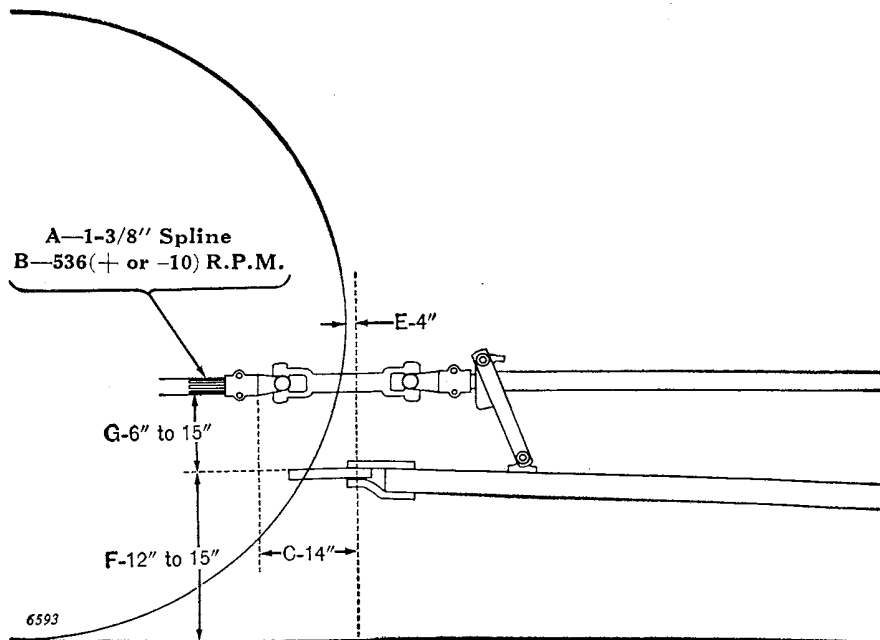

Figure 14
- A. **1-3/8" S.A.E. Standard 6-B Spline Take-Off Shaft on Tractor.** (See Figure 14.)
- B. **536 R.P.M. (Plus or minus 10) Take-Off Shaft Speed.** (See Figure 14.)
- C. **14" horizontal distance between hitch point and end of splined take-off shaft.** (See Figure 14.)
- E. **Not less than 4" horizontal distance between hitch point and rearmost point on wheel.** (See Figure 14.)
- F. **12" to 15" vertical distance between ground line and top of drawbar at point of hitch (15" is preferred).** (See Figure 14.)
- G. **6" to 15" vertical distance between top of drawbar at hitch point and center line of splined take-off shaft (8" is preferred).** (See Figure 14.)